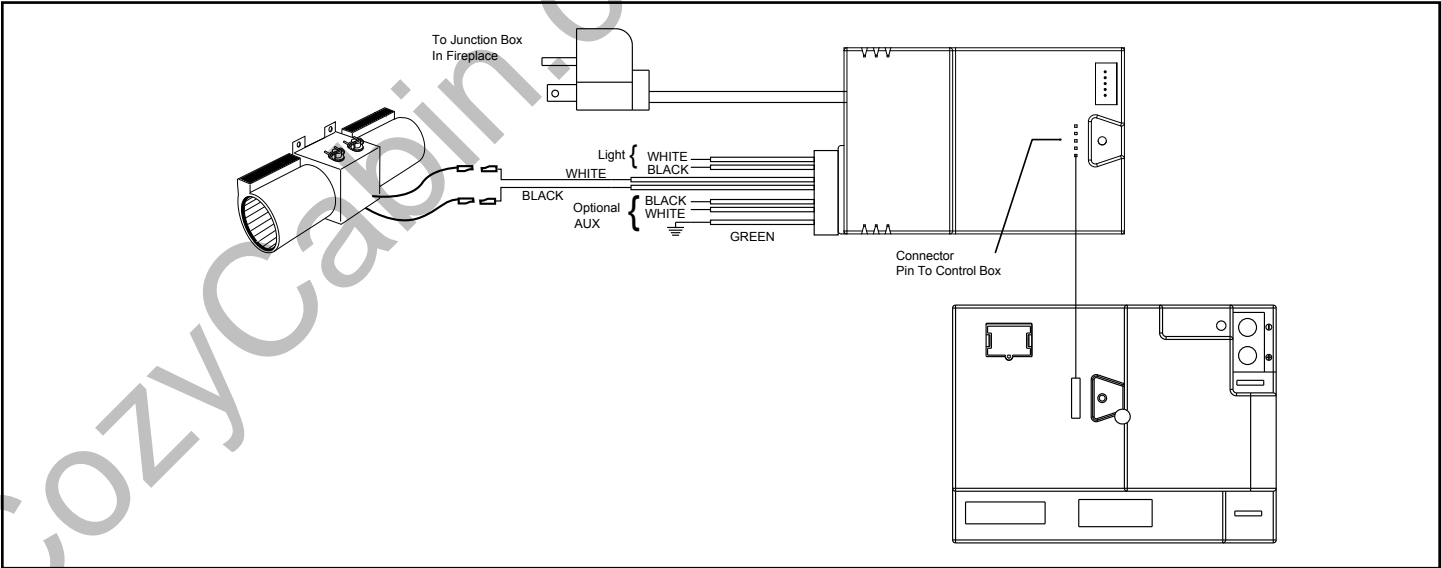

Figure 53 - Blower Wiring Diagram
- Connect the blower wires to the wire control board. See Figure 53 on page 29.